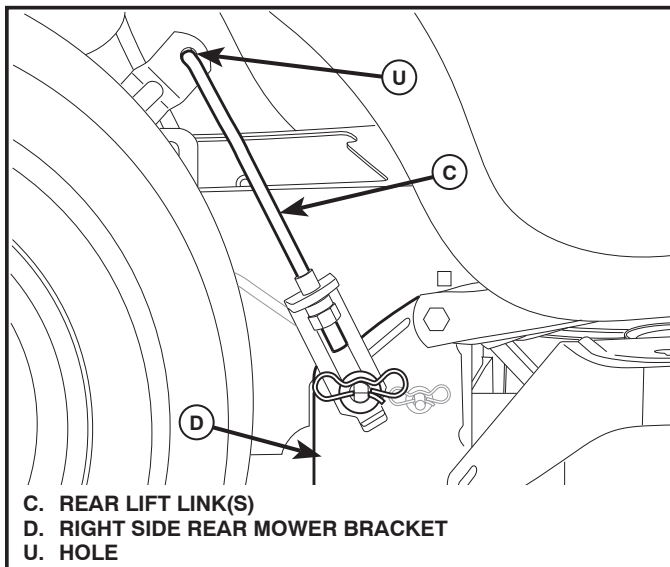

Fig. 35
7. ATTACH REAR LIFT LINKS (C) (See Fig. 35)
- Insert rod end of rear lift link (C) into hole (U) in tractor lift shaft suspension arm and pivot link down to mower.
- Lift rear corner of mower and position slot in link assembly over pin on rear mower bracket (D) and secure with large washer and large retainer spring.